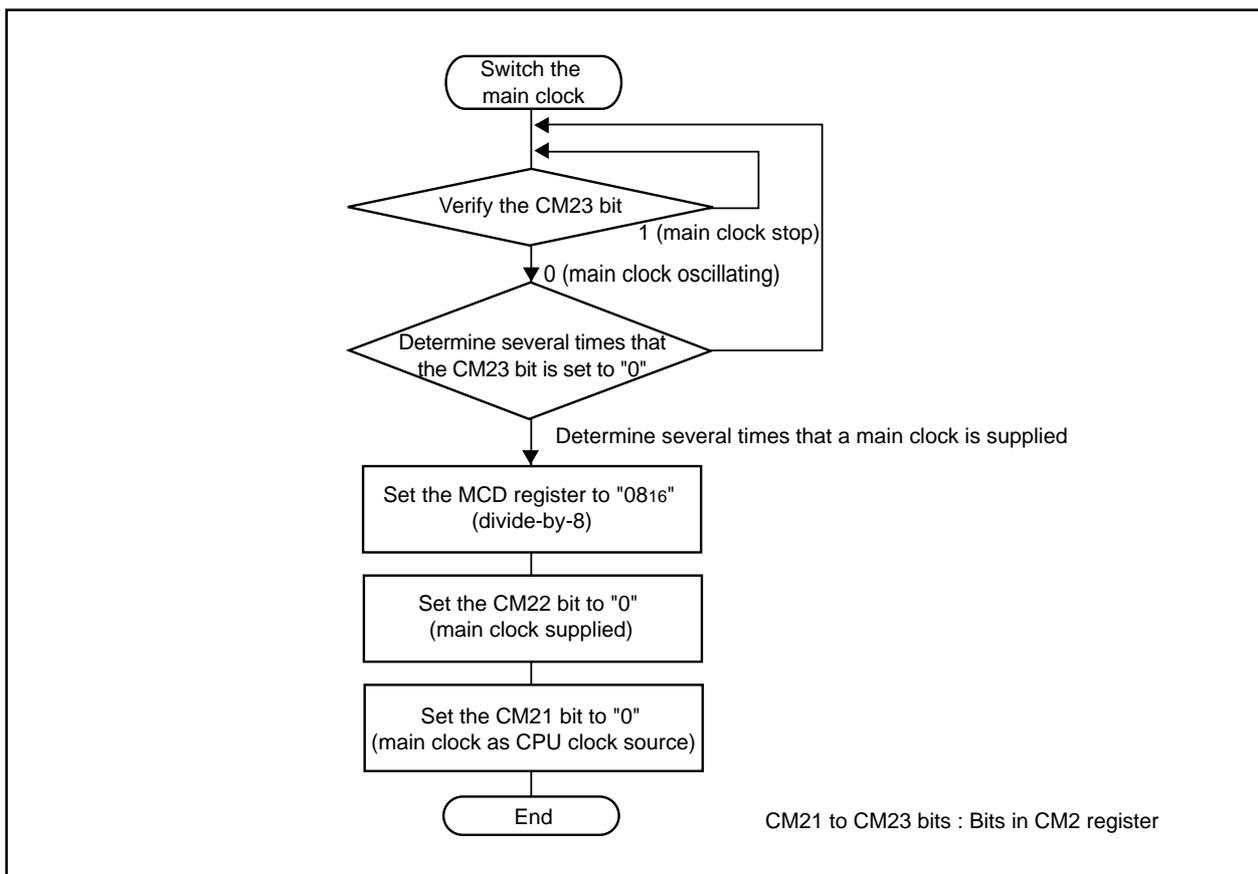

Figure 1.8.11. Switching Procedure from Ring Oscillator Clock to Main Clock
(2) How to Use Oscillation Stop Detect Function
- When an oscillation stop is detected and the main clock resume its oscillation, the main clock should be set as a clock source of the CPU clock and peripheral function clock. Figure 1.8.11 shows a procedure to switch the ring oscillator clock to the main clock.